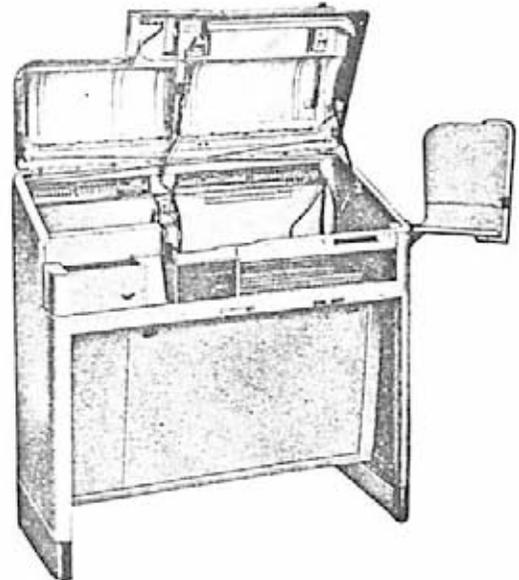

Figure 1 - Typical 28 Teletypewriter Cabinet for Automatic Send-Receive (ASR) Sets (Dome Cover Open)
1.03 A cabinet is an enclosure with its cover and all external faceplates. The cabinet protects the enclosed components against dust, possible damage from external sources, and reduces the operating noise level. Figures 1 and 2 show a typical 28 teletypewriter cabinet for the ASR Set.